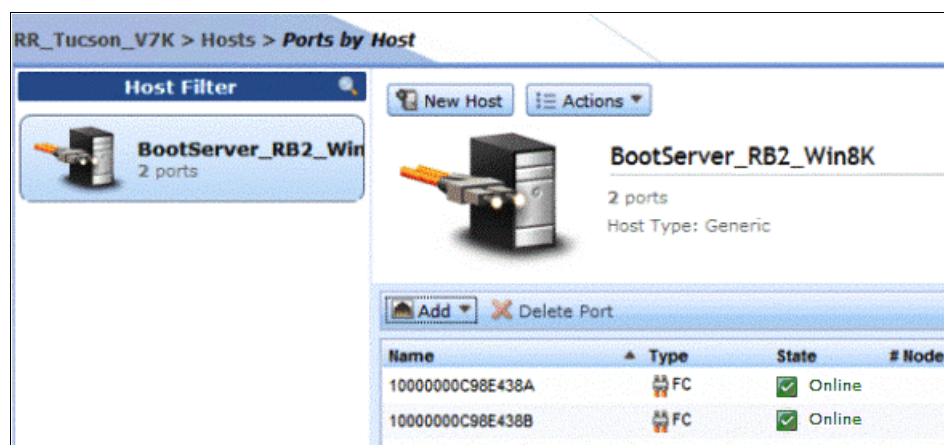

Figure 5-81 Adding Redundant path
5. Go to IBM Storwize V7000 management GUI and add the second HBA port (for failover) to the host definition, as shown in Figure 5-81